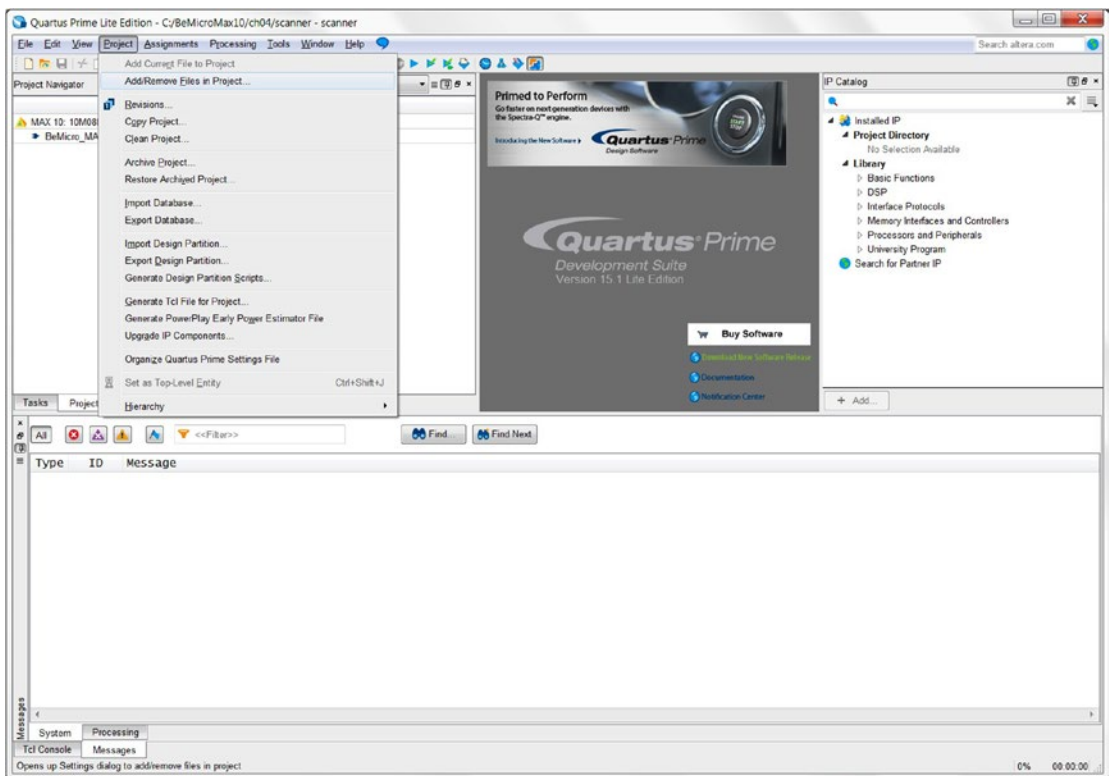

Figure 4-17. Quartus Prime—Project Navigator
1. The first thing to do is add a BeMicro MAX10 vhd template file. Click **Project ► Add/Remove Files in Project...** from the Quartus Prime menu to open the Files Setting dialog box. It should look like Figure 4-17.